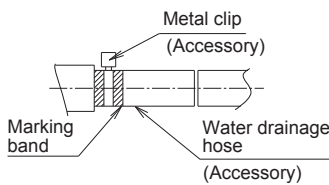

Fig. 11
- Please use the water drainage hose and metal clip in the accessories. The water drainage hose shall be inserted to the bottom of the water drainage insertion opening, and the metal clip shall be used for firm fixing on the marking band in the front of the hose. Tighten the metal clip, until the protruding height of the bolt head is less than 4 mm. (Please refer to Fig. 11 and 12)